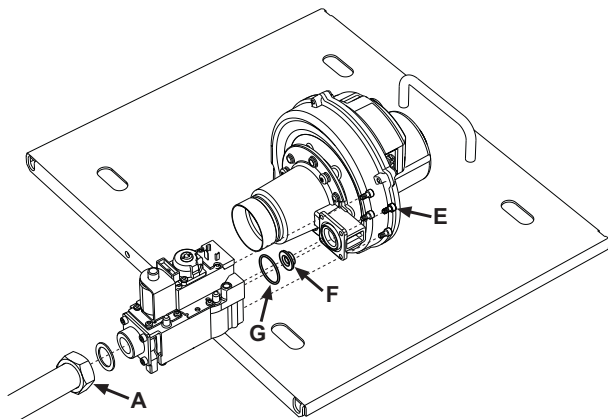
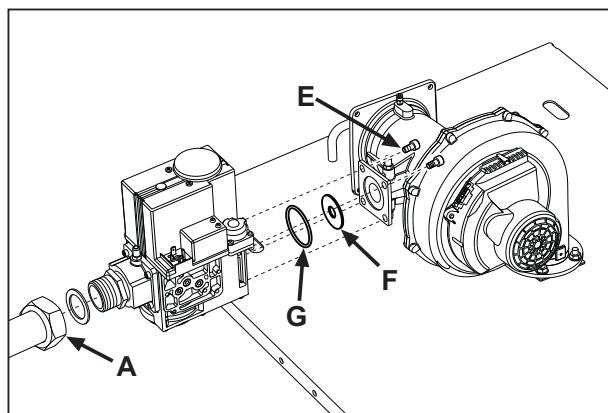
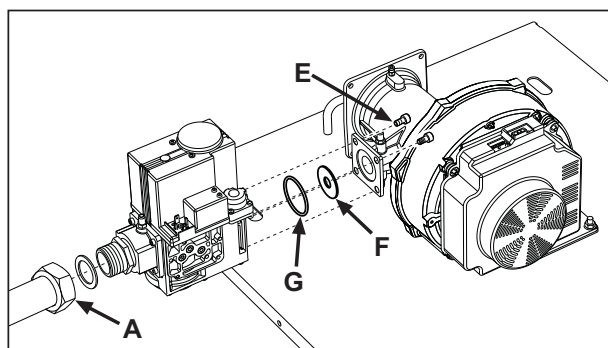

fig. 36 - Model QUADRIFOGLIO 125
fig. 37 - Model QUADRIFOGLIO 220
fig. 38 - Model QUADRIFOGLIO 320
4. Unscrew the knob "A" fastening the gas valve (see fig. 36, fig. 37 and fig. 38 for the various models).